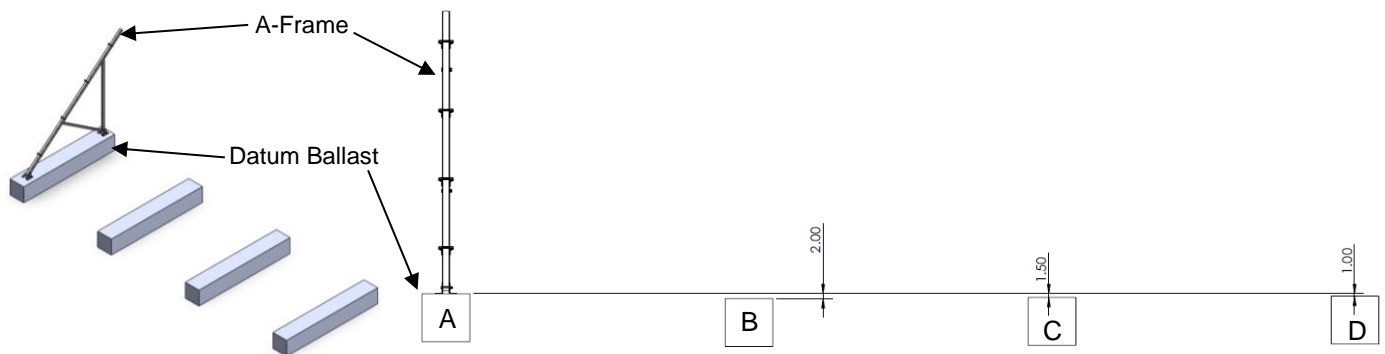

Figure 4: Example Ballast Vertical Misalignment (Left: Isometric View, Right: Side
- e. Here is an example demonstrating this step. Say, it is a 4-ballast system, and the height differences are as follows (Figure 4).
In the example in step 'd' (Figure 4), ballast A (datum) will have the bolt in the lowest hole. Ballast B has a height difference of 2 inches from the datum ballast therefore the top hole will be used. Ballast C will use the second row of holes from the top and ballast D will use the third row from the top of holes. This is assuming that the front and the back foot are at the same height. The same procedure will be followed to align the front and the back feet.